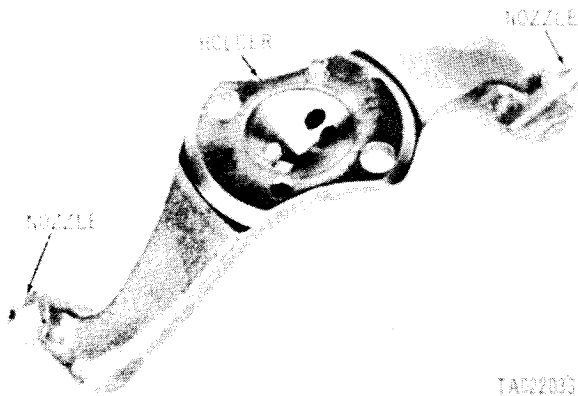

Figure 3-291. Piston oiler nozzle and holder assembly.
a. *Disassembly.* Do not remove nozzles (fig. 3-291) unless the nozzle or holder cannot be cleaned without disassembly. To remove nozzles, position holder in a soft-jawed vise and remove nozzles.
c. *Assembly.* Refer to figure 3-291 to install the nozzle in the holder if removed at disassembly. Stake nozzles on three flats, 120 degrees apart.